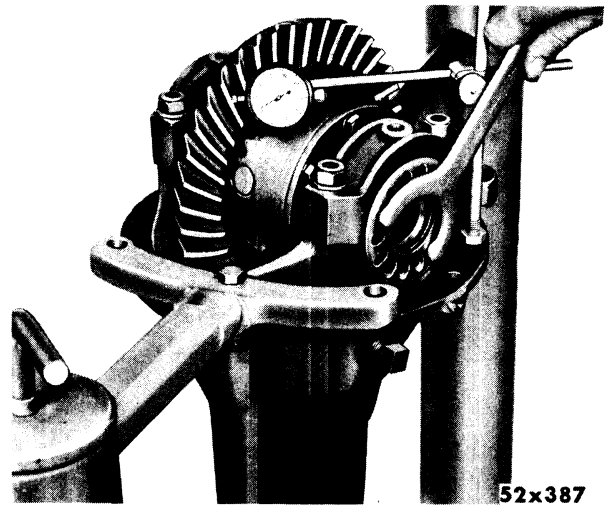

Fig. 43—Checking Backlash between Ring Gear and Pinion
- (5) Tighten the lower pedestal bolts to 90 foot-pounds, leaving the top bolts slightly loose. This holds the bearing cups in line while moving the ring gear.
- (6) Mount the dial indicator on the carrier so that the plunger rests against one of the ring gear teeth, as shown in Figure 43. (Make certain that the indicator is properly positioned so that the plunger will accurately indicate the exact amount of backlash.)
- (7) Check the backlash between the ring gear and the pinion at 90 degree intervals as the ring gear is rotated. Stop at the point of last backlash.
- (8) Turn the left-hand bearing adjuster clockwise until only .001 inch backlash exists between the ring gear and the pinion. Be sure that the right-hand adjuster is kept screwed out so that the bearing cup can move without interference.
- (9) Make certain that the left-hand bearing adjuster is in position where the nut lock and attaching bolt can be installed. Tighten the upper left-hand bearing cap bolt to 90 foot-pounds torque.
- (10) Turn the right-hand adjuster clockwise until the dial indicator shows a backlash of .006 inch between the ring gear and the pinion, as shown in Figure 43.